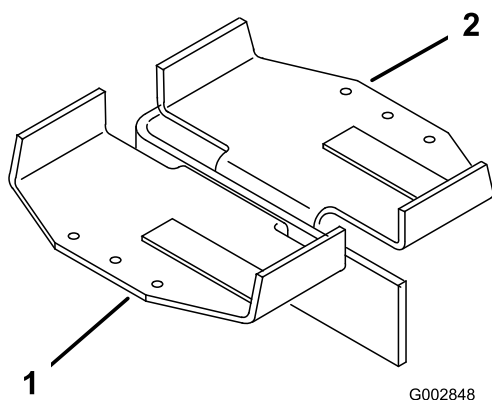

Figure 7
1. Mount the battery holder brackets to the back left rear corner of mower deck carrier frame with 2 bolts (3/8 x 1-3/4 inches) and locknuts (3/8 inch) (Figure 7).